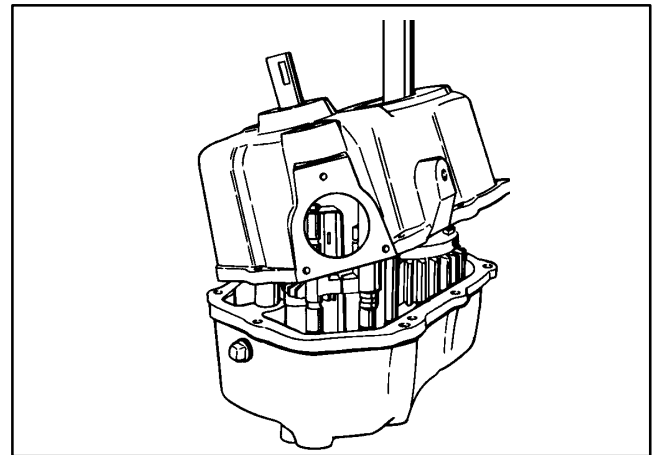

Figure 10
2. Place the transaxle in neutral. Remove three (3) socket head screws (item 1) that secure shift lever assembly to transaxle. Lift shift lever assembly, gaskets and shift guide plate from transaxle. See Shift Lever Service in this section for shift lever assembly service.
3. For assembly purposes, mark axle housings and transaxle to identify orientation of axle housings. Remove cap screws (item 51) and lock washers (item 53) that secure axle housings to the transaxle. Pull axle housings from the transaxle case and cover.
4. Use exposed axles as a ram to separate seal retainers from transaxle case and cover. Remove and discard seal seals (item 45) and o-rings (item 72) from retainers.
6. Tap two (2) dowel pins (item 50) into the cover and then remove eleven (11) flange head screws (item 49).
7. Lift the case 1 1/2 to 2 inches (38 to 50.8 mm) and tilt case so that the shifter rods will clear the edge of the case. Rotate case so the boss hidden inside will clear the gears. Lift case from transaxle (Fig. 10).